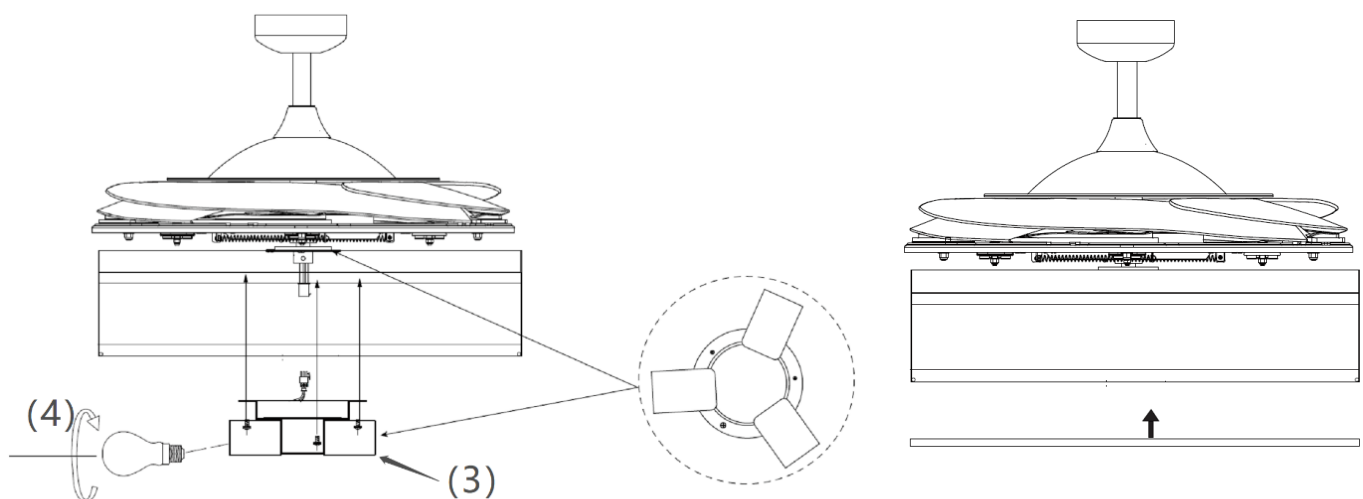

Fig. 7
4. Connect the quick connector to the lamp holder part (3). (Fig. 7)
5. Secure the lamp-holder part (3) to the light kit bracket by tightening the 3 screws. Do not over-tighten.
6. Install globes (4) (Not included) into the lamp holders. Do not exceed the maximum power rating.